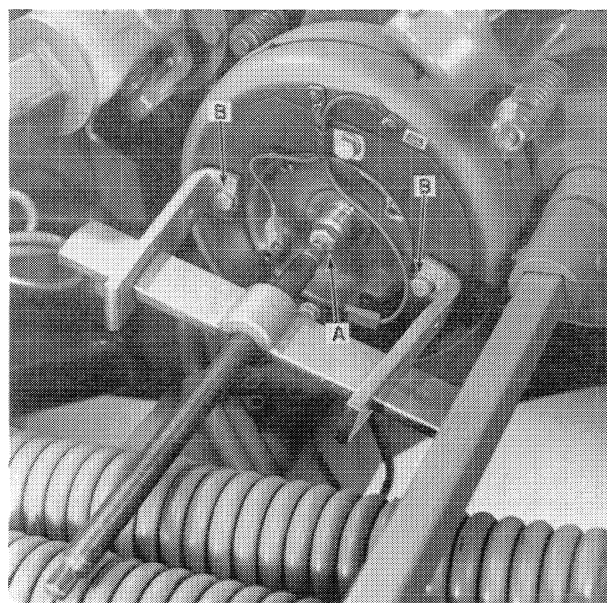

FIGURE 2-10
3. Install a 1/2" cap screw at A, Figure 2-10. Loosen the magnet mounting bolts at B, Figure 2-10, and install a puller as shown.